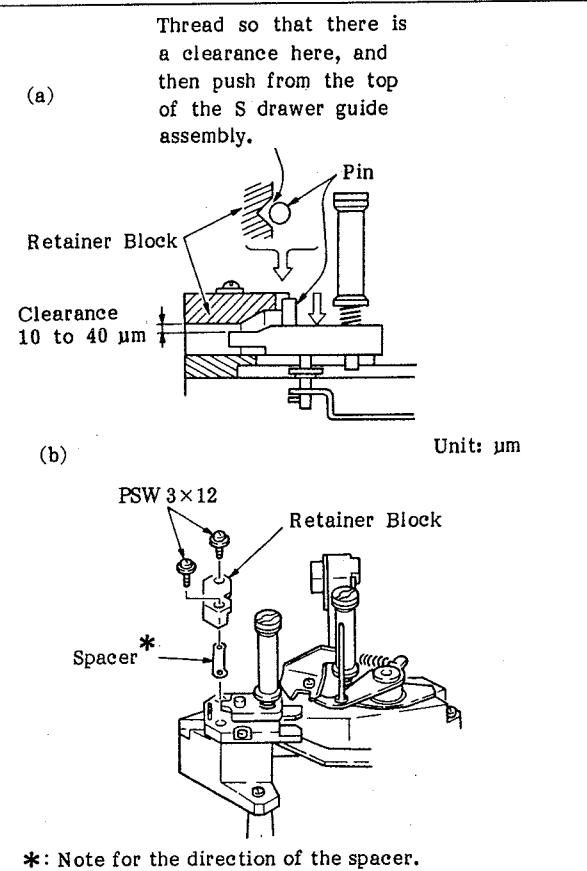

Fig. 6-50 Adjustment of the Clearance between the Retainer Block and the S Drawer Block
5. Set in the threading condition so that there is a clearance between the retainer block and the pin on the S drawing of Figure 6-50(a).
6. Check that clearance A between the S drawer block and the retainer block, shown in Fig. 6-50 (a), is 10 to 40 μm by using the following spacers. If it is not, adjust it by replacing the spacer, shown in Fig. 6-50, with one of a different thickness.